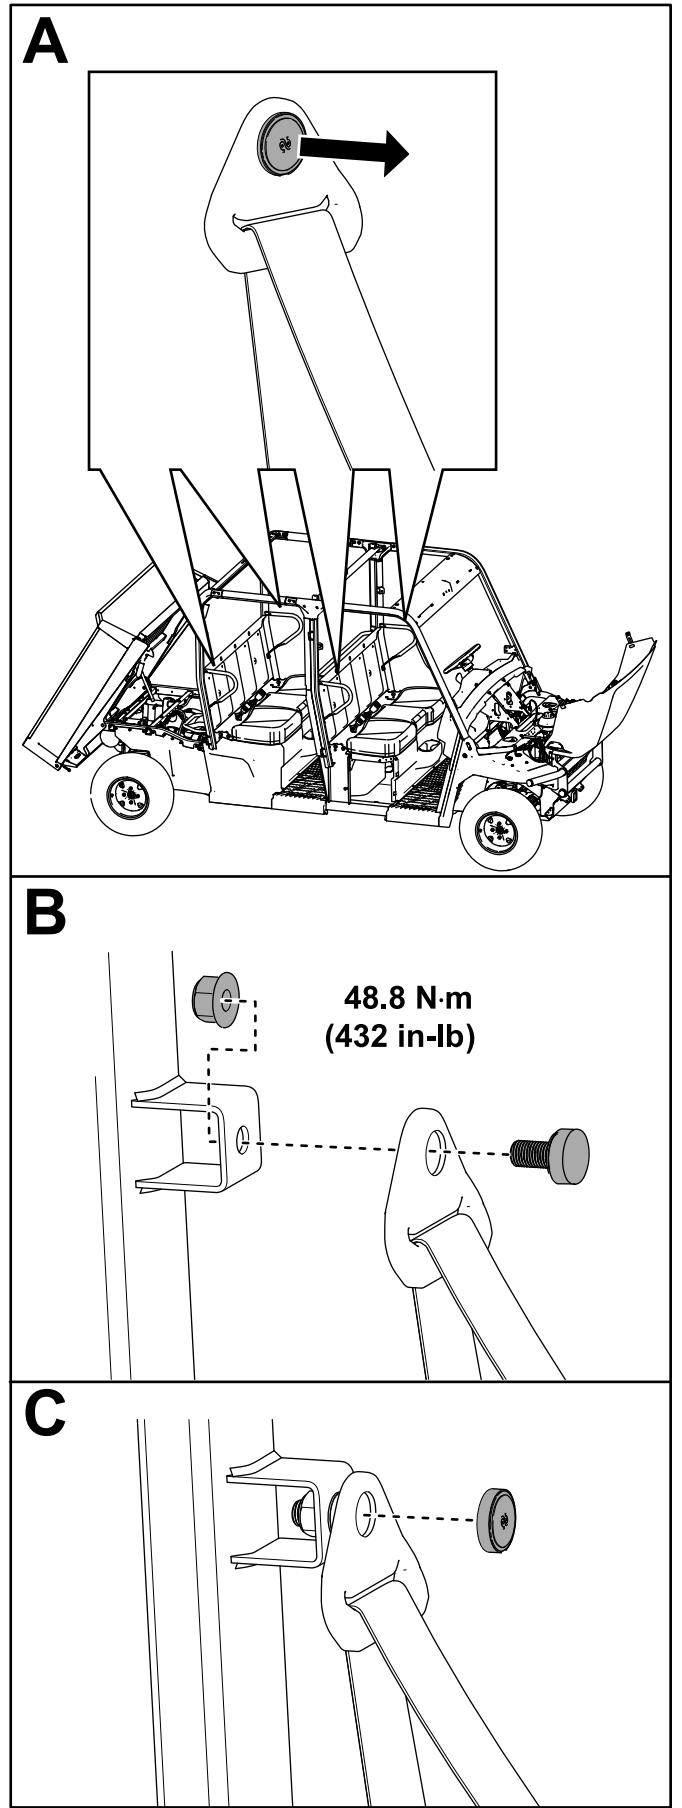

Figure 60
- Remove the cap from the top portion of the seat belt (Figure 60).
- Insert seat belt into the roll bar seat belt bracket and secure the seat belt using a locknut (7/16 inch) as shown in Figure 60.
Torque the locknut (7/16 inch) to 48.8 N·m (432 in-lb) as shown in Figure 60.
- Install the cap (Figure 60).